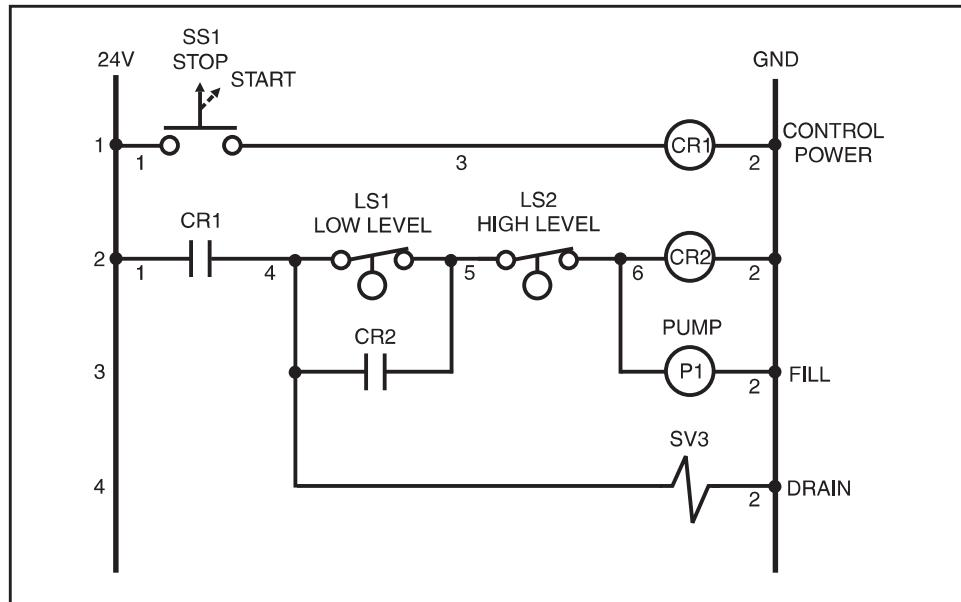
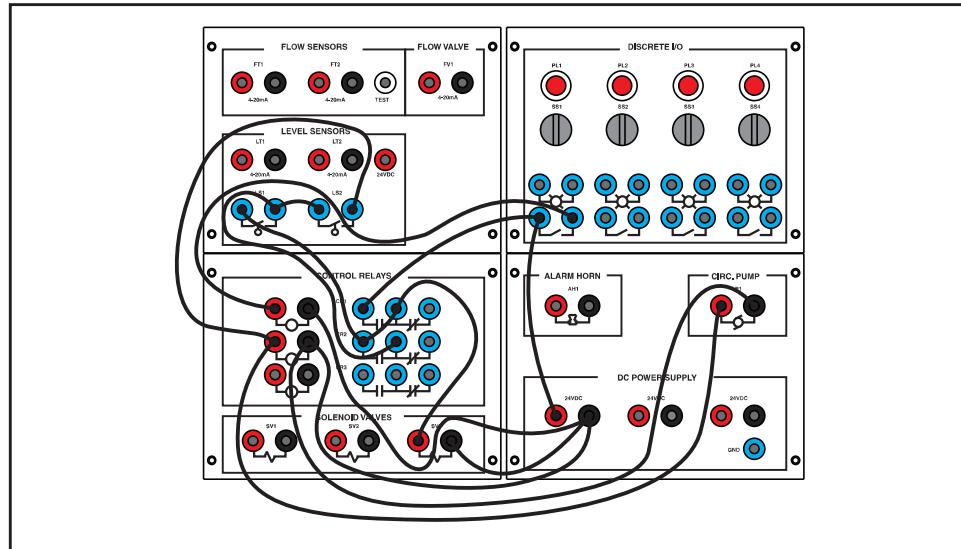

Figure 1-2. On/Off Control Ladder Diagram
Figure 1-3. On/Off Control Circuit Pictorial
- 3. Connect the on/off control circuit according to the ladder diagram in figure 1-2. Figure 1-3 shows a pictorial diagram.